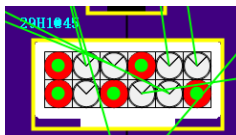

Figure2
- 2, As shown in Figure 2, the yellow box indicates that the connector has a wiring problem, and the red dot indicates the problem point.